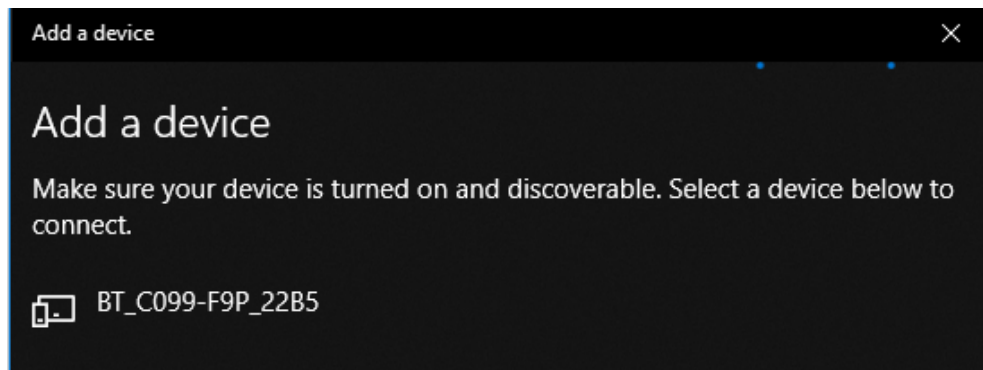

Figure 20: Windows 10 menu for adding a Bluetooth device
- Next, perform a Bluetooth scan to find the C099-F9P board. Every C099-F9P has a predefined, unique Bluetooth name in BT_C099-F9P_XYZW format as shown in Figure 20.